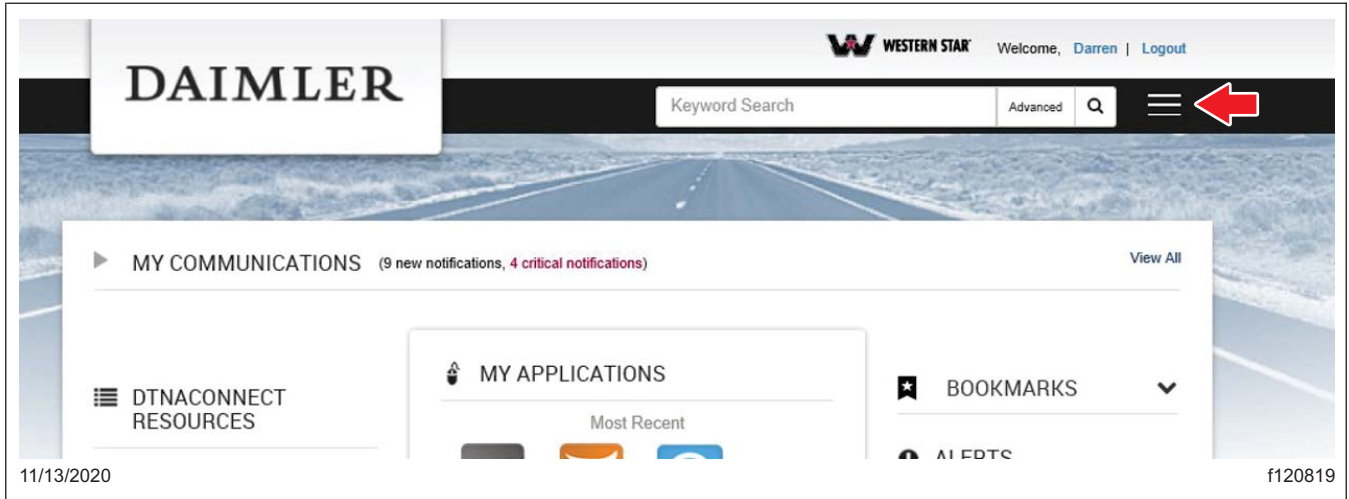

Fig. 1, DTNACconnect Home Screen
4. On the laptop, go to DTNACconnect and select the three menu bars in the upper right-hand corner. See Fig. 1.